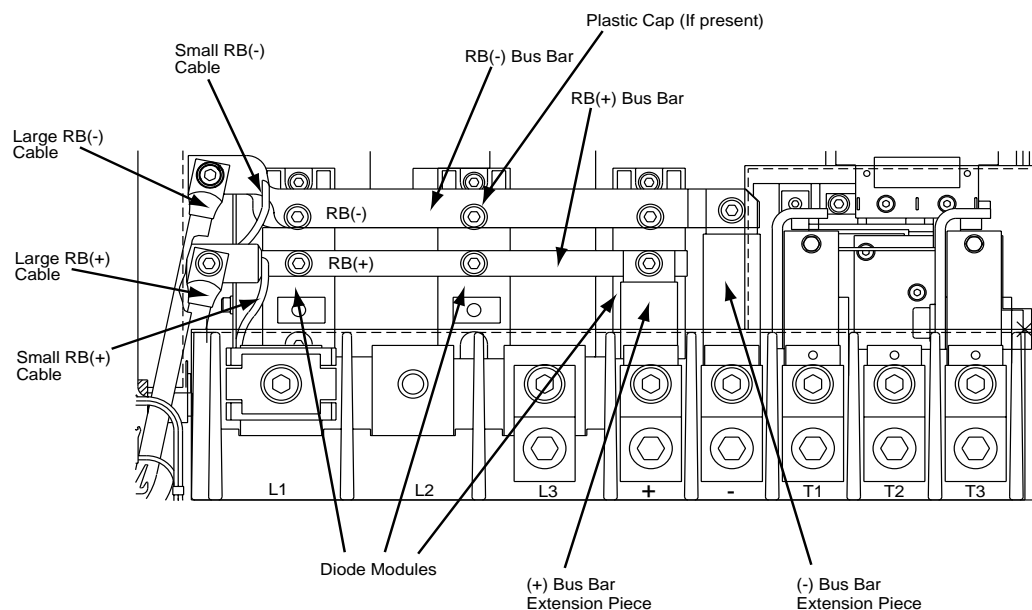

Figure 4.1.21: Removing the Line Rectifier Diode (ATV66C10N4 and C13N4 shown)
4. If present, remove the plastic cap from the center diode module screw (see Figure 4.1.21 on page 4.1.50).
5. Using a hex key wrench, loosen and remove the screws holding the large RB(-) and RB(+) cables in place on the left side of the bus bar (see Figure 4.1.21).
6. Using a hex key wrench, loosen and remove the screws holding the small RB(-) and RB(+) cables in place on the left side of the bus bar (see Figure 4.1.21).
7. Using a hex key wrench, loosen and remove the screw which holds the (-) bus bar extension piece to the RB(-) bus bar. Remove the bus bar extension piece (see Figure 4.1.21).
8. Using a hex key wrench, loosen and remove the remaining six bus bar screws. Remove the two bus bar pieces (see Figure 4.1.21).
5. Install the two bus bar pieces. Using a torque wrench with hex key socket, install and tighten the six bus bar screws to a torque of 53 lb-in (6 N•m) for ATV66C10N4/C13N4 controllers or 105.6 lb-in (12 N•m) for ATV66C15N4/C 19N4 controllers. The top screw on the (+) bus bar extension piece is the longest of the six. See Figure 4.1.21 on page 4.1.50. Ensure that the bus bar spacing specifications are adhered to as described in the note to Figure 4.1.21.
NOTE: Ensure that the bus bar spacing specifications are adhered to as described in the note on Figure 4.1.21.
7. Place the small RB(-) cable over its mounting location on the RB(-) bus bar. Using a torque wrench with hex key socket, install and tighten the mounting screw to a torque of 35.4 lb-in (4 N•m). Place the small RB(+) cable over its mounting location on the RB(+) bus bar. Using a torque wrench and hex key socket, install and tighten the mounting screw to a torque of 35.4 lb-in (4 N•m). See Figure 4.1.21.
8. Place the large RB(-) cable over its mounting location on the RB(-) bus bar. Using a torque wrench with a hex key socket, install and tighten the mounting screw to a torque of 70 lb-in (8 N•m). Place the large RB(+) cable over its mounting location on the RB(+) bus bar. Using a torque wrench and hex key socket, install and tighten the mounting screw to a torque of 70 lb-in (8 N•m). See Figure 4.1.21.
9. For ATV66C15N4 and C19N4 controllers replace the plastic cap on the middle diode module upper screw. See Figure 4.1.21.